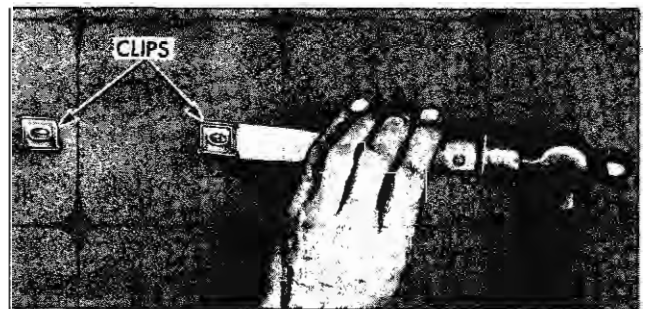

Fig. 6-7 Removing Bath-Tub Clip
1. Insert sharp edge of flat-bladed tool, such as a putty knife, under edge of clip and hammer tool until base of clip is cut approximately half-way through (Fig. 6-7) then disengage clip from hole.